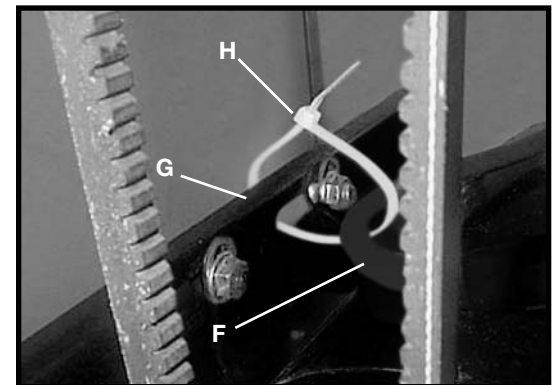
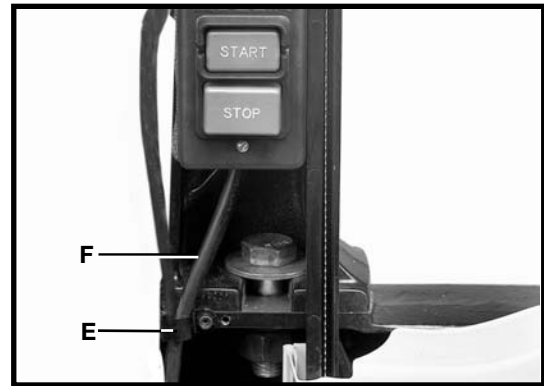

Fig. 11
Fig. 16
2. **CAUTION:** The switch-to-motor cord (F) Fig. 11 must be tied to the horizontal motor support bar (G). This cable tie (H) prevents the switch-to-motor cord (F) from contacting the belt or motor pulley during operation of the unit.
7. Insert the switch cord and power cord (F) Fig. 16 into the clamp (E) (removed in STEP 6), and fasten to the bandsaw.
IMPORTANT: Be certain to prevent contact between the switch-to-motor cord (F) Fig. 16 and the motor pulley or belt. If necessary, adjust the cord, then tighten the cable tie (H) Fig.11.